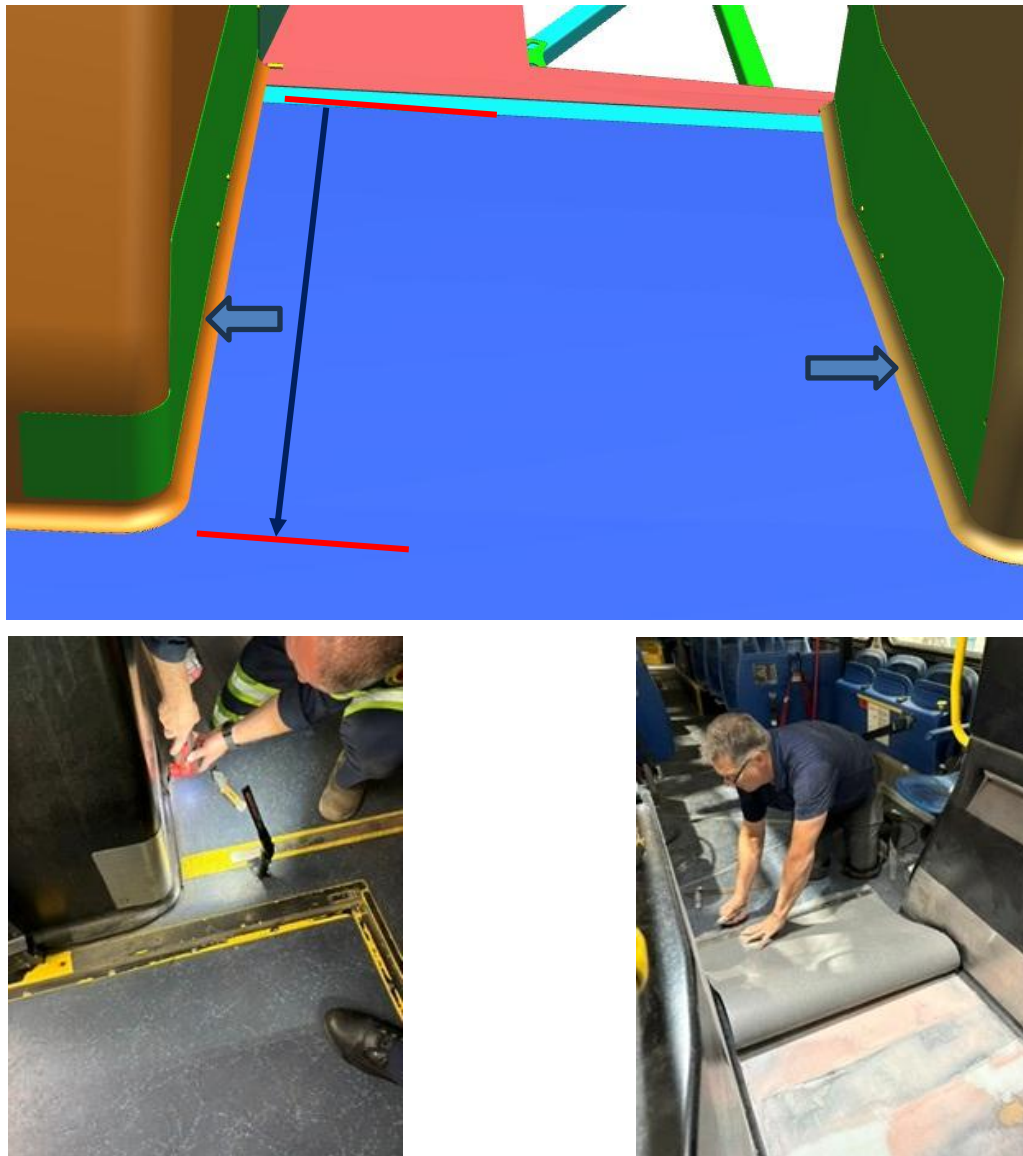

FIGURE 3: SHOWN FLOORING CUT ALONG EDGE OF LUGGAGE RACK AND PULLED BACK TO THE END OF THE LUGGAGE RACK.
6. From interior of the bus, pull back the flooring carefully from the standee line to the back edge of the front luggage rack. Carefully trim flooring along the edge of the luggage rack to the back edge – stop just before it goes to a corner. Be careful not to pull up the subfloor (plywood). See Figure 3.